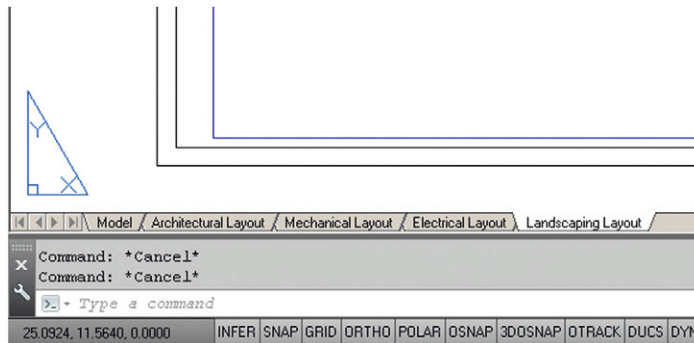

FIGURE 10.12
order. Finally, click on OK and observe what happens with the tabs. A new one appears, saying `Architectural Layout (2)`, and it is a perfect copy of the previous existing tab. Go ahead and rename it `Mechanical Layout`. Repeat the whole procedure to create a third tab, called `Electrical Layout`, and finally a fourth tab, called `Landscaping Layout`. The final result is in Figure 10.12.